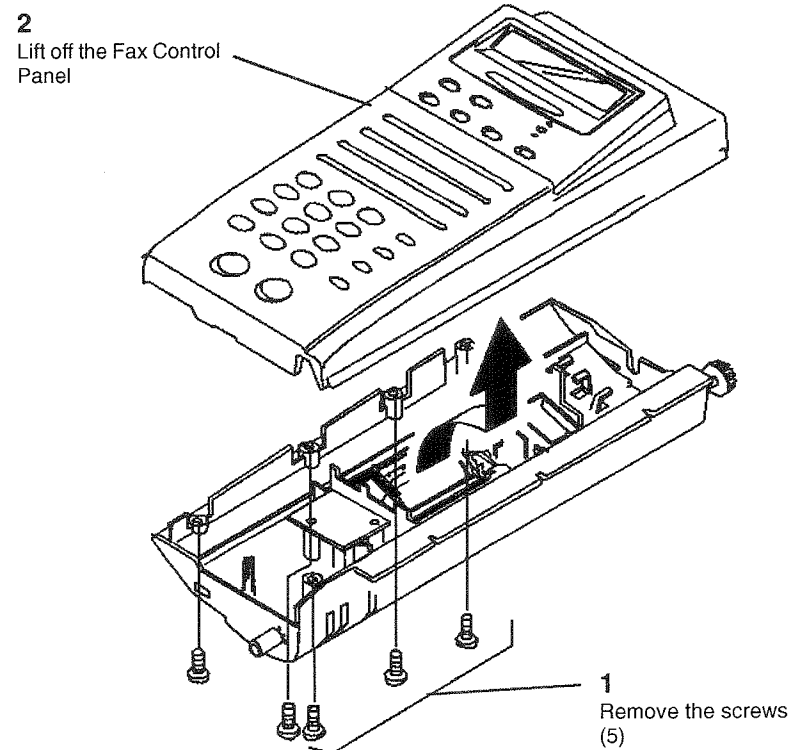

Figure 4 Removing the Fax Control Panel
4. (Figure 4 ) Remove the Fax Control Panel.